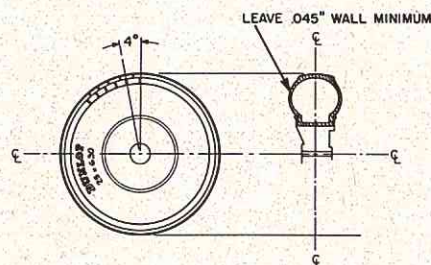

FIG. 1
b) Next, make a cross-sectional drawing of the tire, showing inside as well as outside size; Fig 1 shows a typical layout for these drawings.
We have three general situations in which we can fly: A calm day, a constant wind, and a gusty wind. First, let's talk about flying on a calm day and some general flying qualities of model aircraft. As an example we will use a typical class III plane and call it GEM I. It weighs 6 pounds, stalls (quits flying) at 30 mph in straight flight, and under full power it cruises at 75 mph. Now let's make a turn; as we roll into the turn we need to put in some up elevator to maintain altitude because, now we not only have to overcome gravity, but also the centrifugal force of the turn. The relationship is shown in Fig. 1. l_g is lift required to overcome gravity, C_f is lift required to overcome the centrifugal force of the turn, and L_t is the total lift required for the turn.